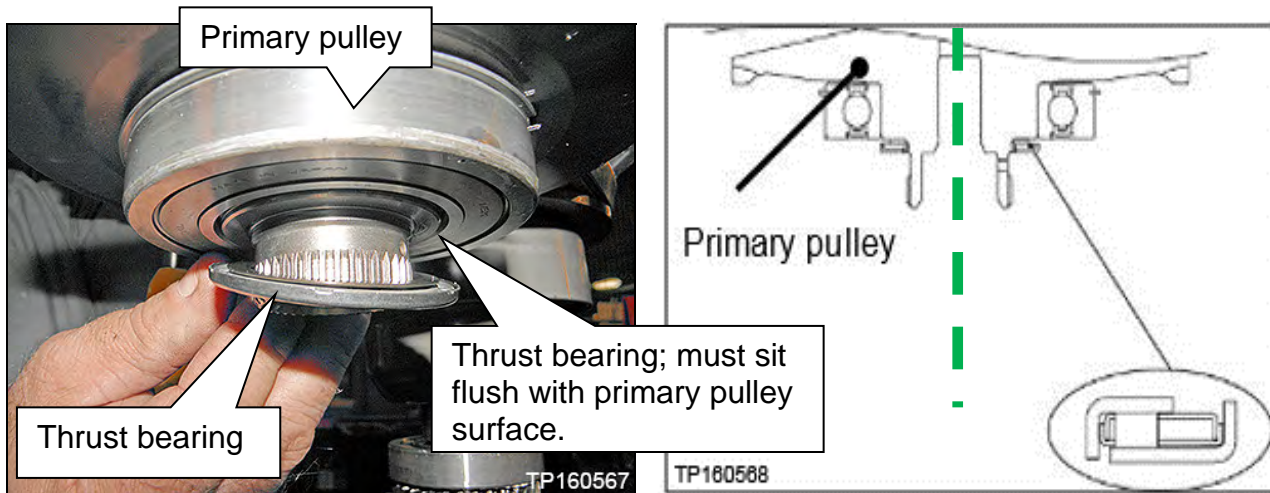

Figure 21F
18. Install the original thrust bearing on the primary pulley of the new sub-assembly part (Figure 21F).
**CAUTION:** The thrust bearing has two sides. Reference Figure 21F for bearing orientation.